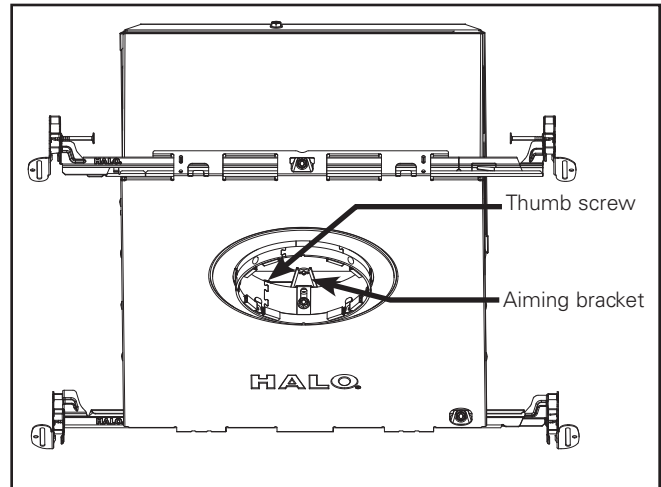

Figure 10
1. Loosen thumb screw on left of aiming bracket (Figure 10).
2. Using the aiming bracket (Figure 10), rotate to the appropriate position. Tighten thumb screw.